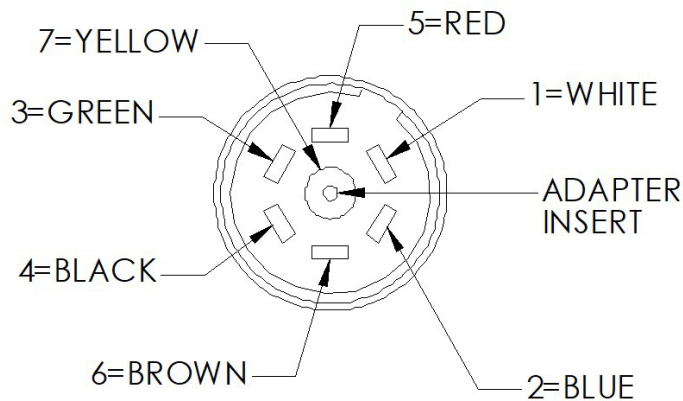

Figure 14 – Wire Connections
9. If necessary, trim cable to appropriate length. Assemble the connector as shown in Figure 14 and mount connector on bracket.